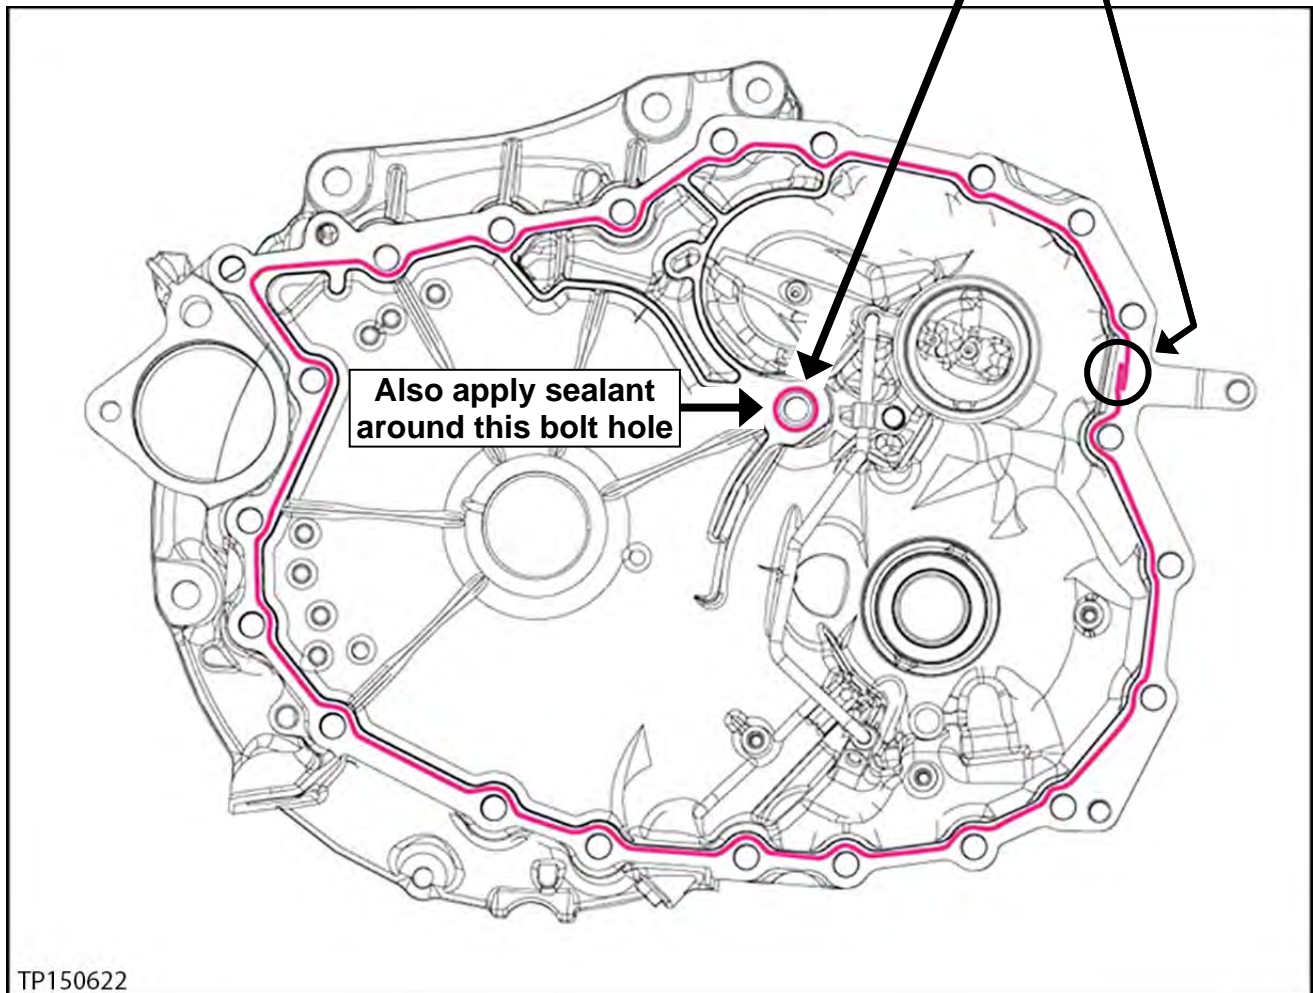

Figure 16l
15. Apply one continuous 2.0 mm (**0.8 inches**) diameter bead (Figure 16l) of pink colored Loctite 5460 Sealant (see the Parts Information section of this bulletin).
- Before sealant application, make sure the mating surfaces are clean from oil, dirt, old sealant, etc. (Figure 16l).